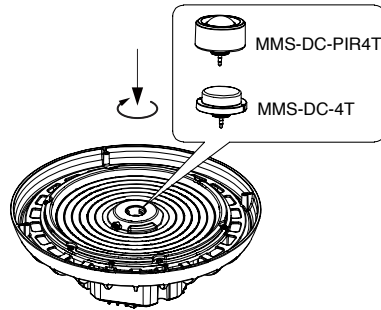

Figure 10
4. Connect the wires of the fixture to the mains according to local wiring rules, ensure the connection is stable and make good protection on the connection (figure 10)
- 2). Twist-lock the DC sensor to the base (figure 10)